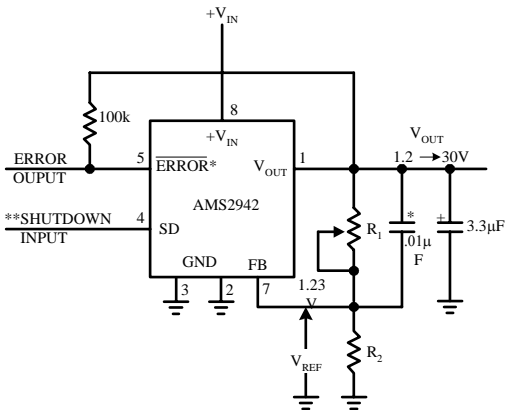

FIGURE 2. Adjustable Regulator
The AMS2942 it may be programmed for any output voltage between its 1.235V reference and its 42V maximum rating. As seen in Figure 2, an external pair of resistors is required.
*When $V_{IN} \leq 1.3V$ the error flag pin becomes a high impedance, and the error flag voltage rises to its pull-up voltage. Using V_{out} as the pull-up voltage (see Figure 2), rather than an external 5V source, will keep the error flag voltage under 1.2V (typ.) in this condition. The user may wish to drive down the error flag voltage using equal value resistors (10 k Ω suggested), to ensure a low-level logic signal during any fault condition, while still allowing a valid high logic level during normal operation.